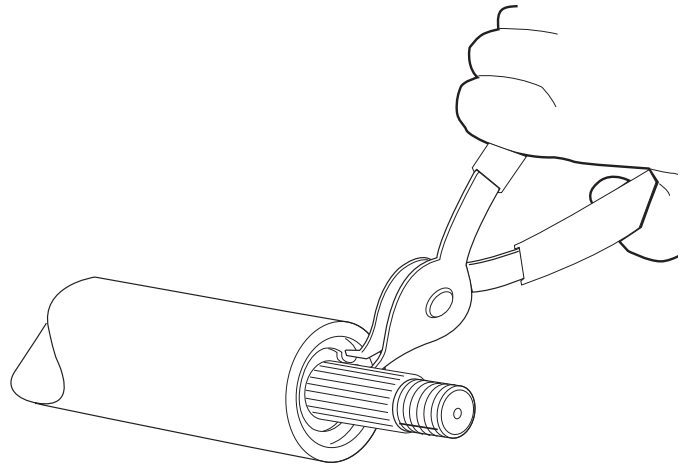

Fig. 2 Outer Snap Ring
1. Remove the outer snap ring (3) from the axle tube (Ref Fig. 2).